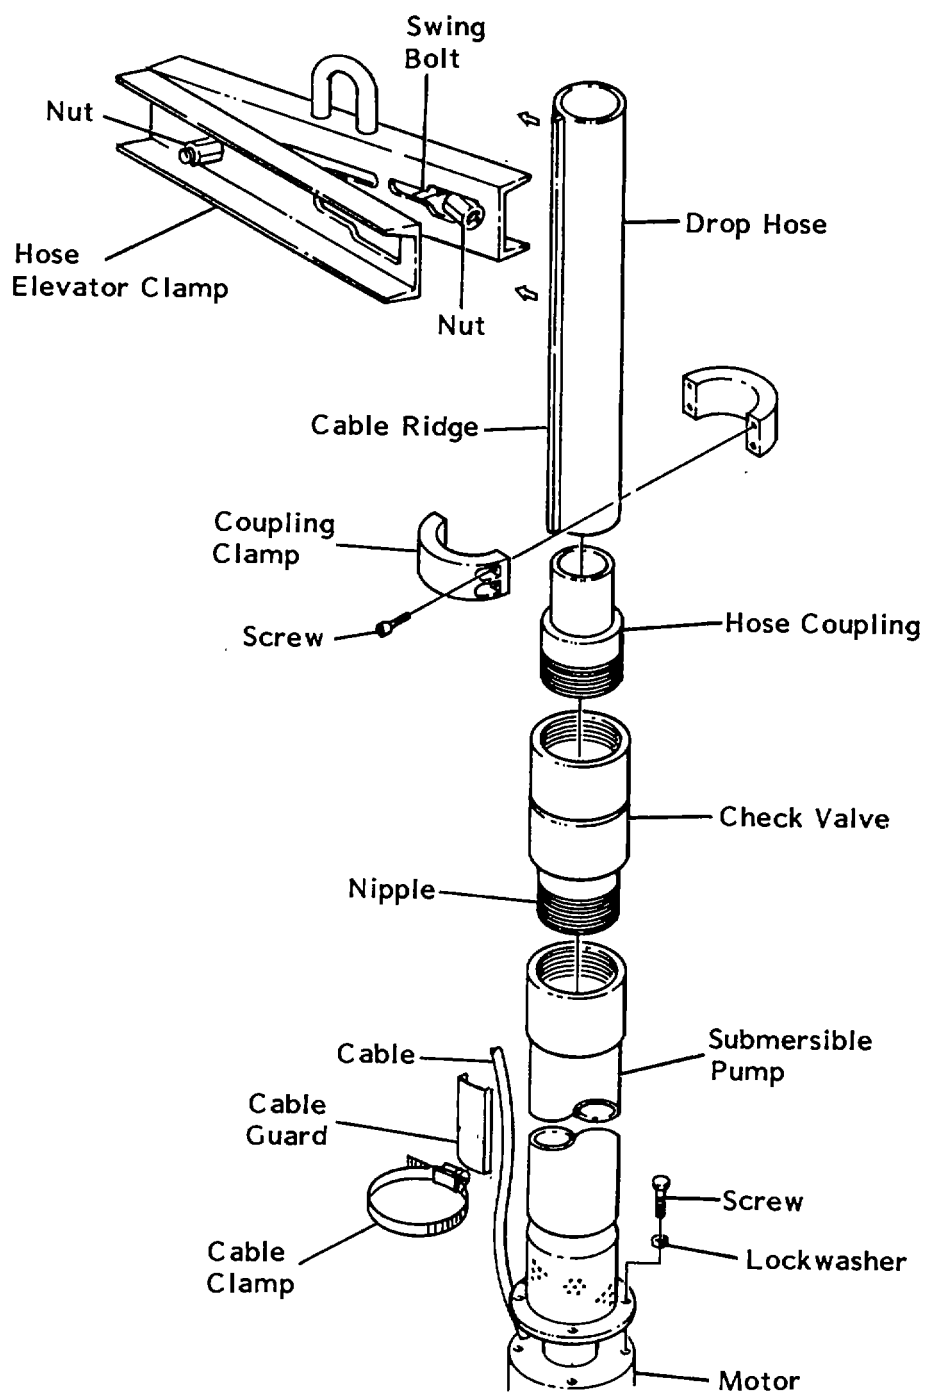
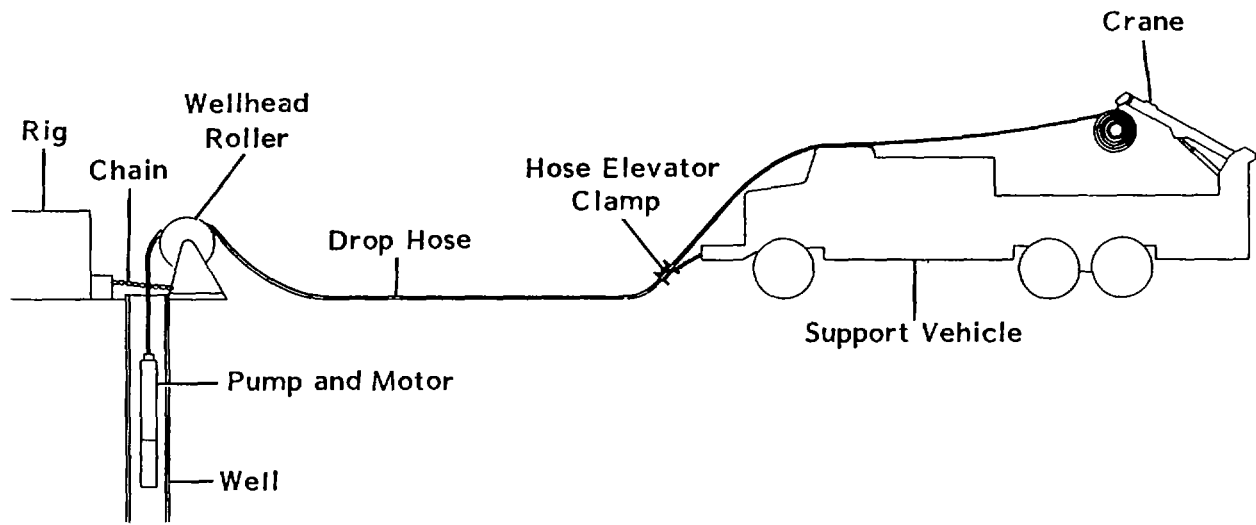

Figure 2-48. Setting the Pump.
Figure 2-50. Installing Submersible Pump.
- (1) Check to see that the drop hose end is cut square. Use a sharp knife or hacksaw to cut the hose. Then install the hose coupling into the end of the drop hose (see figure 2-48). If insertion is difficult, cut a 1/2" slit in the end of the hose. This will help you start the coupling into the hose.
- (1) Attach the power cable to the submersible pump using the cable guard and cable clamp (see figure 2-48).
- (2) Position the pump and motor over the hole and slowly lower the pump into the hole until hose elevator clamp is resting atop the casing.
- (3) Install the well-head roller above the well with the hose positioned over the roller (see figure 2-50).